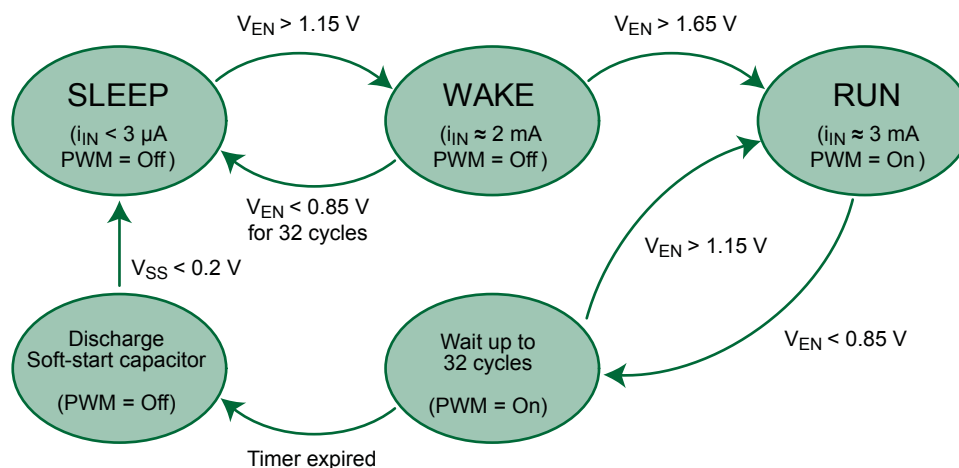

Figure 3. EN/SYNC voltage and A8582 operating modes
- A simple logic input. If EN/SYNC is a logic low ( $V_{EN/SYNC} < V_{ENIL}$ ), then the A8582 and VOUT will be off. If EN/SYNC is a logic high ( $V_{EN/SYNC} > V_{ENIH}$ ), the A8582 will turn on and, provided there are no fault conditions, soft start will be initiated and VOUT will ramp to its final voltage in a time set by the soft start capacitor (CSS). (The operating modes of the A8582 based on EN/SYNC voltage are summarized in figure 3.)
The A8582 protects itself from over-heating, with an internal thermal monitoring circuit. If the junction temperature exceeds the upper thermal shutdown threshold ( $T_{TSD}$ , nominally 165°C) the voltages at the soft start and COMP pins will be pulled to GND and both the upper and lower MOSFETs will be shut off. The A8582 will stop PWM switching and stay in WAKE state (see figure 3). It will automatically restart when the junction temperature decreases more than the thermal shutdown hysteresis ( $T_{TSDHYS}$ , nominally 20°C).